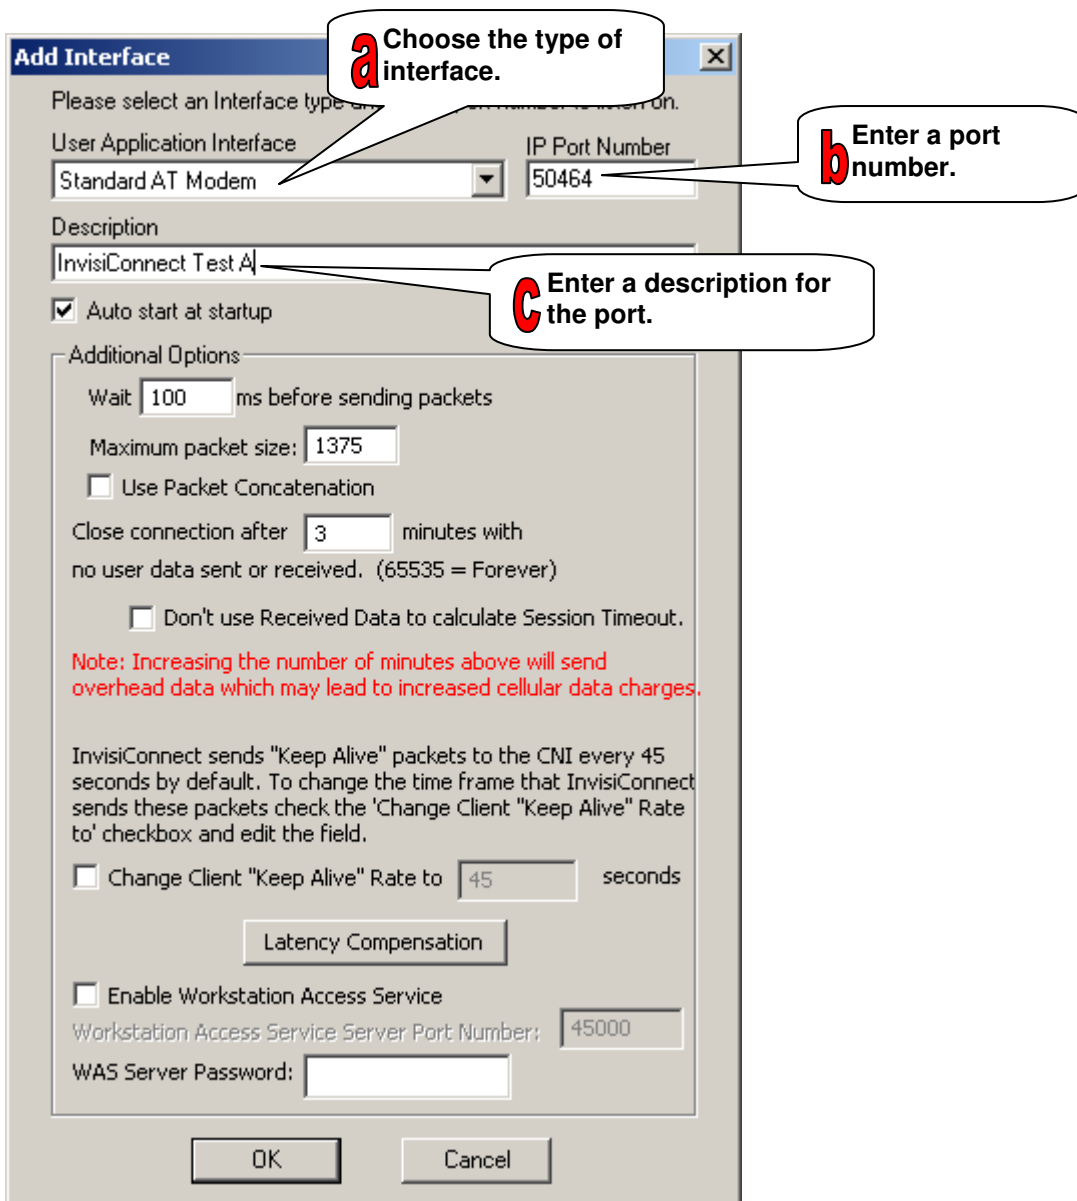

Figure 16 – InvisiConnect™ Configuration – Add Interface
- a. Select the type of connection. The most common option is to use **Standard AT Modem** because it allows more configuration options with the COM port. Figure 16 – InvisiConnect™ Configuration – Add Interface shows the defaults when this is selected.